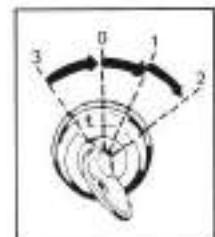

Fig. 9. Starter switch key
4. Insert the starting key and turn it to position 1 in fig. 9.
- 6 Push the starter switch key and turn clockwise to position 2 in fig. 9 (starter generator switched on). Hold the key there until the engine starts. The key when released will return to the switched on position (position 1 in fig. 9).
NOTE: The starter switch is also the main switch for the electrical system of the engine. Because the engine is equipped with an alternator the starter switch key must not be turned to off (position 0 in fig. 9) when the engine is running as electrical components may be damaged. For the same reason the battery cables should never be disconnected or reconnected to another battery while the engine is running.